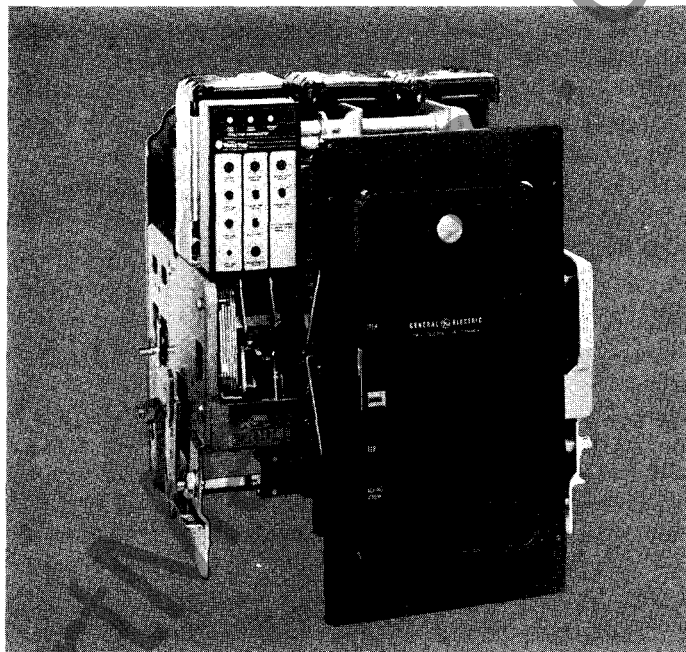

Fig. 3-14. AKR-30 circuit breaker (electrically operated)
C. AKR-30 Circuit Breaker (Fig. 3-14)